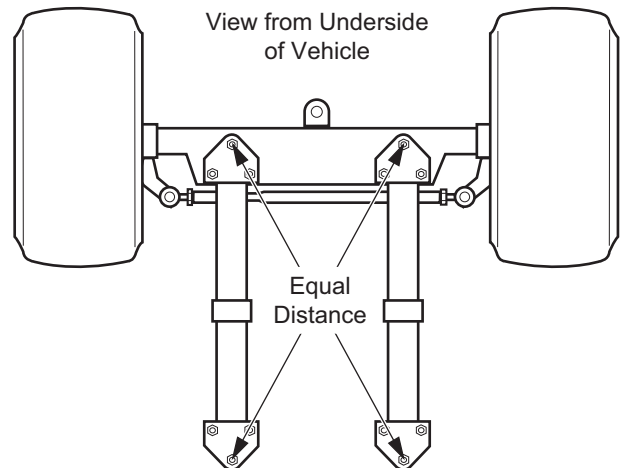

Figure 7 Front Axle Alignment
- When the front springs are replaced, the front axle must be aligned to the frame. The distance from the center bolt at the rear of the left spring to the center bolt at the front of the right spring must be the same as the distance from the center bolt at the rear of the right spring to the center bolt at the front of the left spring (Figure 7). Tighten the spring hardware (21, 19, 27) first, and the rack and pinion unit hardware (15) second, to the torque value specified below (Figure 6).